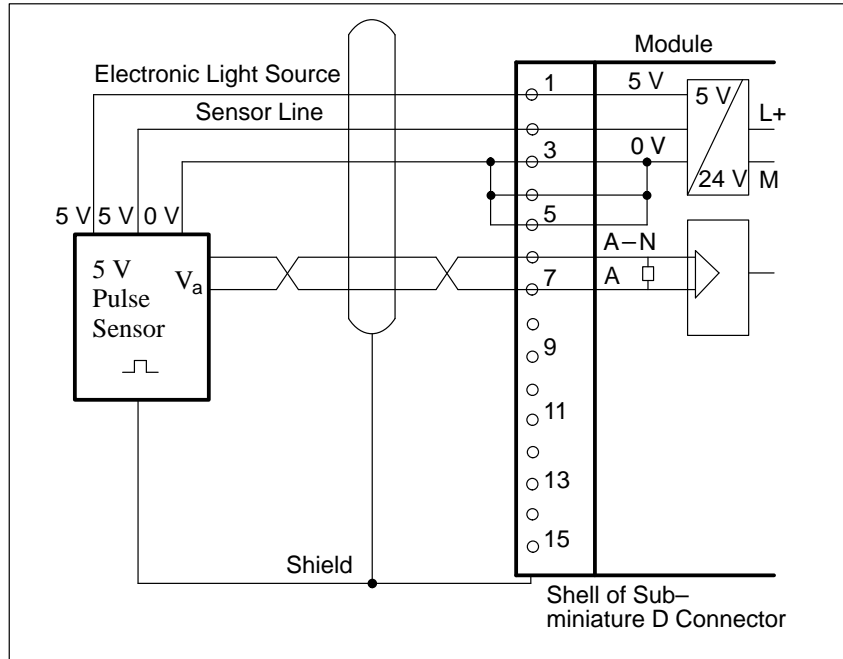

Figure 9-9 Connecting a Counting Pulse Sensor for 5 V Differential Signal to RS 422
- Figure 9-9 shows how to connect counting pulse sensors for a 5 V differential signal to RS 422A.